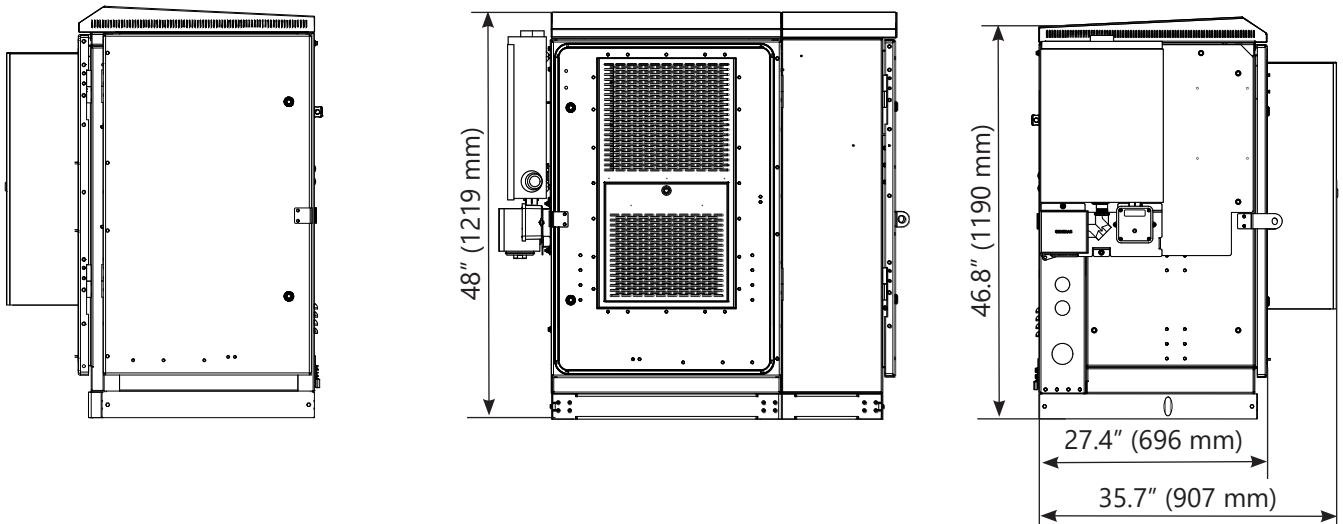

Figure 2. Left, Right, Front, and Left Views – CommScope Telco AIO Example
- Rear access panel with open/close turn-latches and padlocks and environmental vents - Figure 2
- Side wall, rear, and floor knockouts for cable ingress/egress - Figure 2